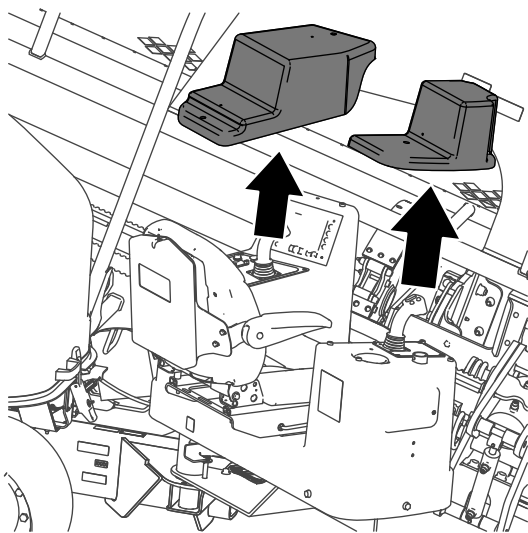

Figure 40
3. Loosen the 4 screws that secure the covers over the operator consoles and remove the covers (Figure 40).